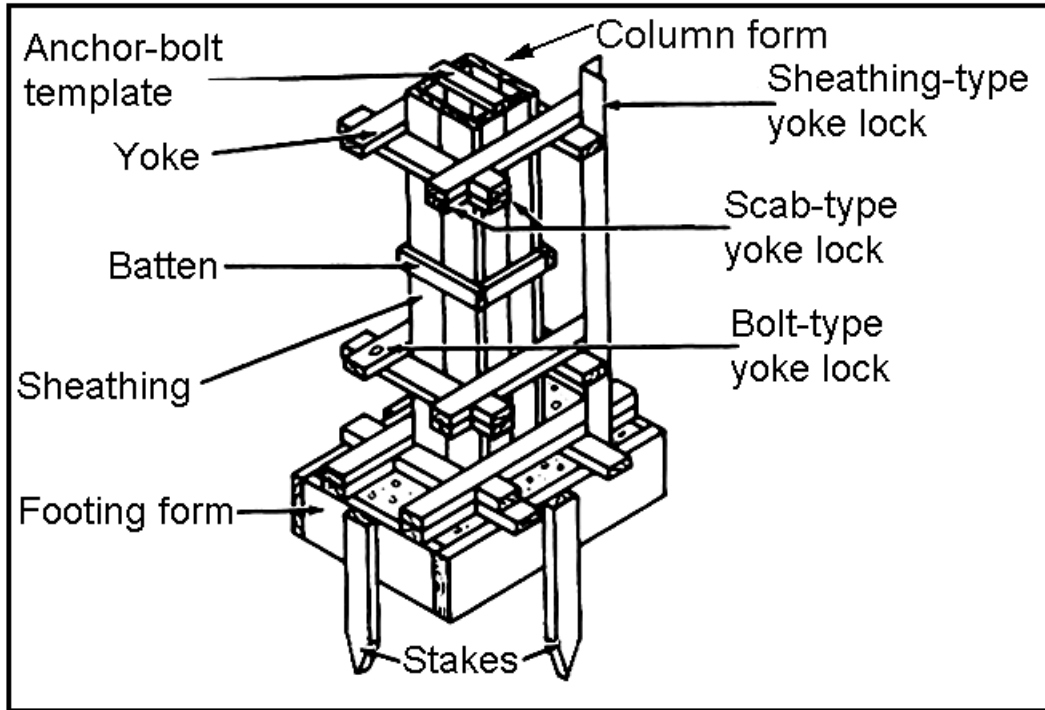

Figure 051-236-1164-1
- (1) Bolt-type locks are bolts that are used with washers and nuts. A hole is drilled where the yoke joins and secures with the bolt, washer, and nut.
- (2) Scab locks are scabs fastened where the yoke joins at a 90-degree angle.
- (3) Sheathing-type locks are either wood or metal that are formed at a 90-degree angle and secured to the yokes on the outer edges (Figure 051-236-1164-1).